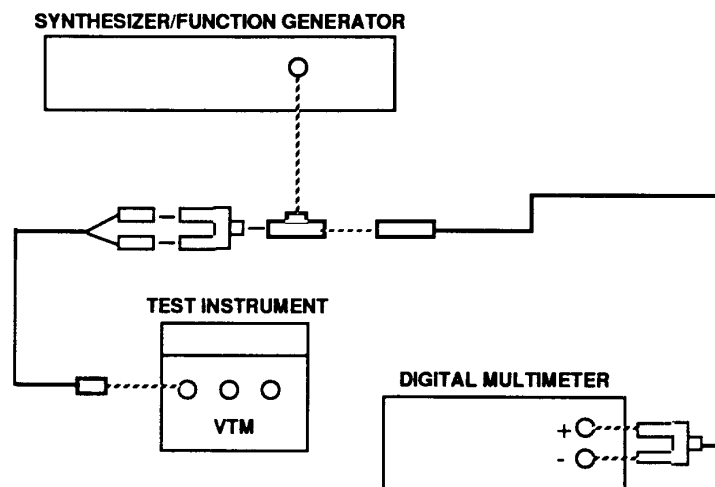

Figure 4. Ac voltage and frequency - equipment setup.
- (1) Connect cable W2 to J4 on VTM.
- (2) Short red and black leads of cable together.
- (3) Set **TEST SELECT** switches to **93**.
- (4) Press and hold **TEST** pushbutton until **CAL** appears on VTM. Release **TEST** pushbutton.
- (5) Wait for offset value to appear on display. Offset value will be between +6.8 and -6.8.
- (6) Connect equipment as shown in figure 4.